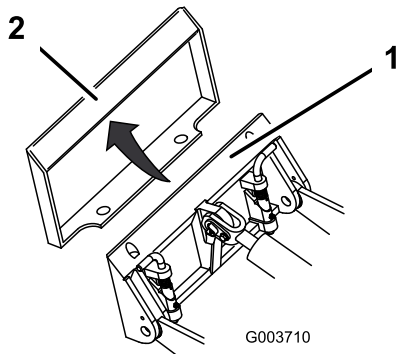

Figure 14
4. Position mount plate into the upper lip of the attachment receiver plate (Figure 14).